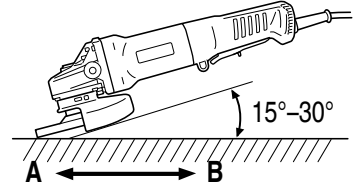

Fig. 6
Do not apply the entire surface of the depressed center wheel to the material to be ground. As shown in **Fig. 6**, the machine should be held at an angle of 15° – 30° so that the external edge of the depressed center wheel contacts the material at an optimum angle.
4. To prevent a new depressed center wheel from digging into the workpiece, initial grinding should be performed by drawing the grinder across the workpiece toward the operator (**Fig. 6 direction B**).